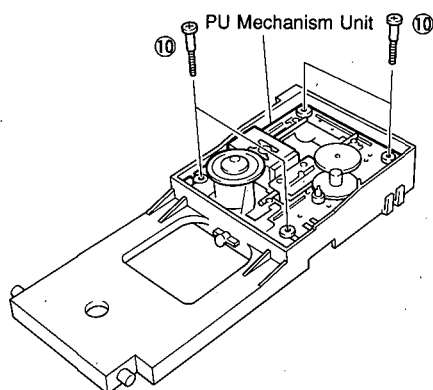

Fig. 5
- Pull out 4 Pins (⑩) and then remove the PU Mechanism Unit as shown in Fig. 5.